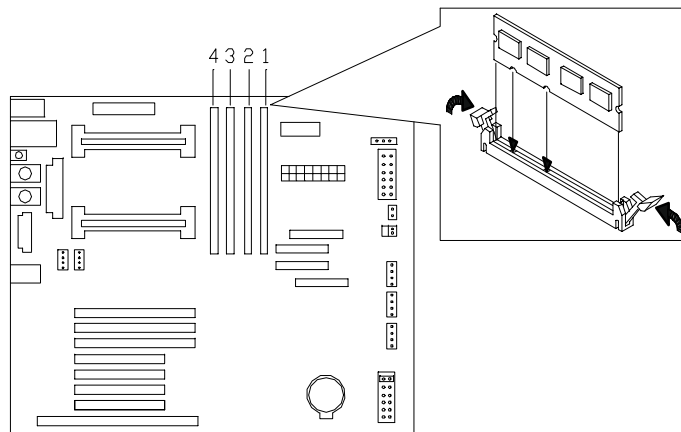

Figure 4-9. Inserting Memory DIMMs
4. Position the DIMM so that the two notches in the bottom edge of the DIMM align with the keyed socket. See Figure 4-9.
3. Gently push the plastic ejector levers out and down to eject a DIMM from its socket. See Figure 4-9.